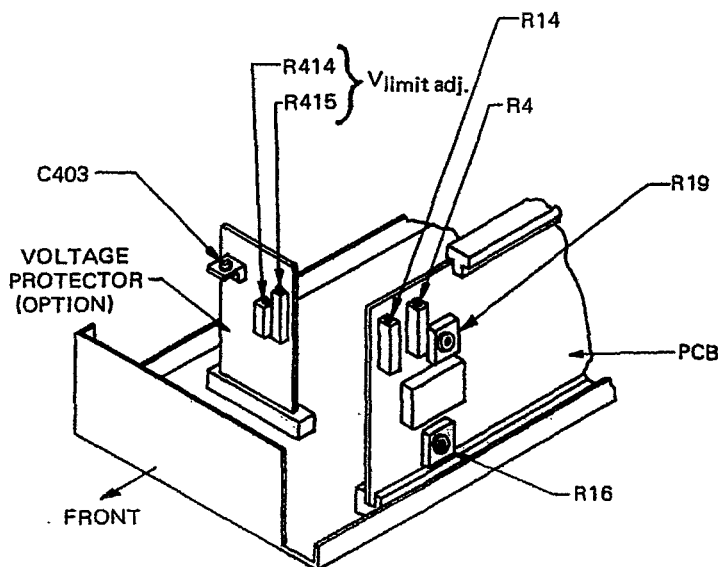

FIG. 2-1 LOCATION OF INTERNAL ADJUSTMENTS (NOT APPLICABLE TO "HS" MODELS)
- c) INTERNAL ADJUSTMENTS AND CALIBRATIONS: Refer to FIG. 2-1 and TABLE 2-1.
- d) (Models suffixed "-VP" only) Check the "crowbar" action of the overvoltage protector by first adjusting the VOLTAGE CONTROL to about one quarter of the rated output voltage. Locate the "Vlimit" adjustments (R414, R415, refer to FIG. 2-1) and turn the "Coarse" adjustment (R415) slowly counter clockwise until the output voltage goes suddenly to zero as observed on the panel meter. Turn AC POWER SWITCH "off". Turn the coarse "Vlimit" control (R415) fully clockwise again.